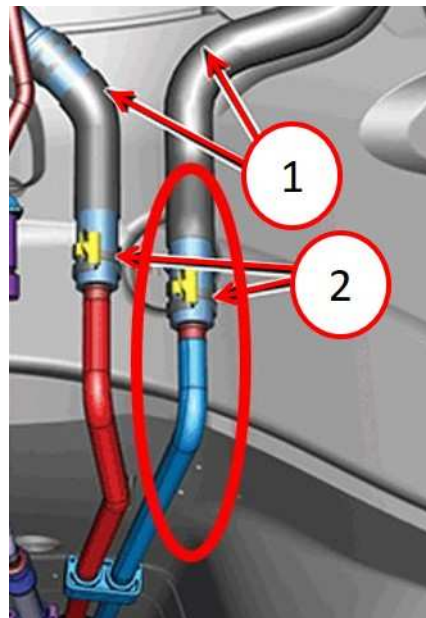

Fig. 3
3. Disconnect the heater hose from the underbody heater tube in circled area only (Fig. 3) .